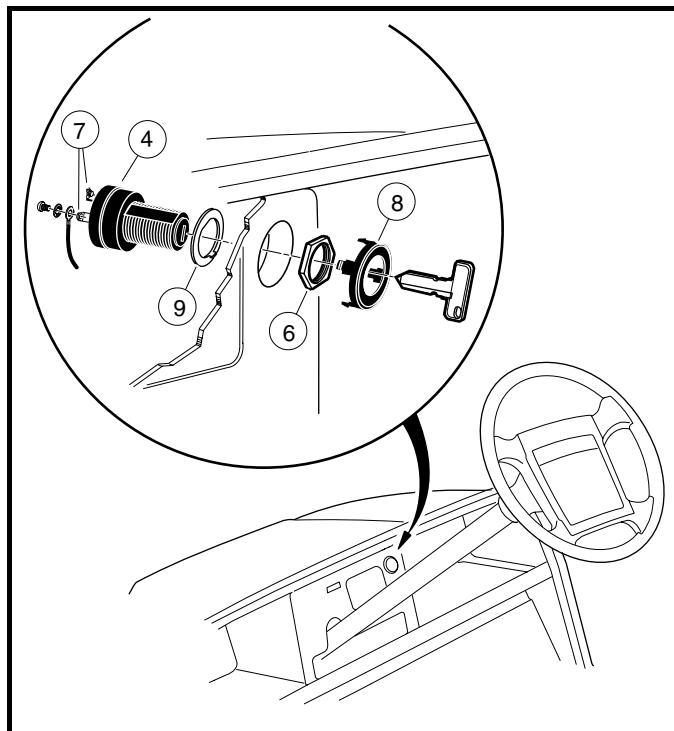

Figure 12-2 Key Switch
- BENDING THE TOP RIGHT CORNER OF THE CENTER DASH INWARD DURING REMOVAL WILL PREVENT THE TERMINALS (7) ON THE BACK OF THE KEY SWITCH FROM TOUCHING THE METAL FRAME AROUND THE DASH (**FIGURE 12-2, PAGE 12-3**).
6. From the back of the dash panel, push down on the retaining tabs surrounding the key switch (4) and remove the key switch cap (8). Hold the key switch and remove the switch retaining nut (6) from the outside of the dash panel (**Figure 12-2, Page 12-3**).
1. Position key switch in the center dash, then install and tighten the switch retaining nut (6) to 40 in.lb (4.5 N-m). Press the plastic cap (8) into place on the outside of the center dash (**Figure 12-2, Page 12-3**).
3. Install center dash by reversing removal procedure. Make sure key switch terminals (7) do not touch frame and the center dash panel is properly seated and snapped into place (**Figure 12-2, Page 12-3**).